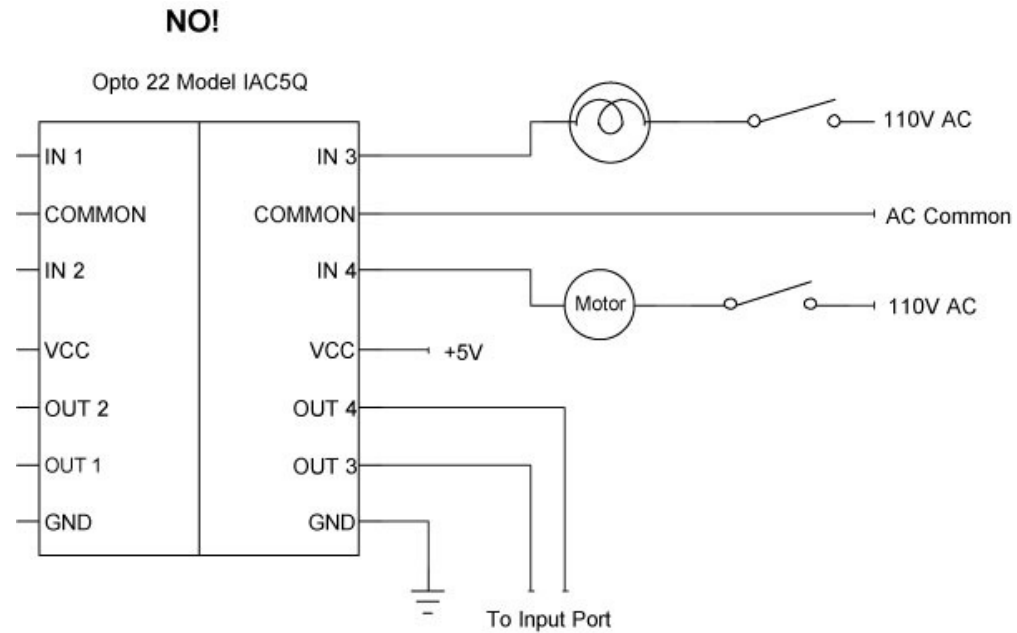

Figure 3-8
**CAUTION:** Always use an input module in parallel with a device; NEVER place a module's inputs in series with the device. A module detects voltage across a device, not current passing through it. See **Figure 3-8** for the types of connections you must avoid!